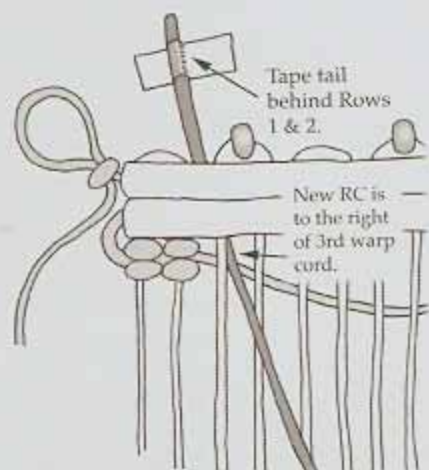

Fig. 5
6. Adding a new colored Runner Cord - Position the new Color C **Runner Cord** to the right of warp cord #3. Thread the tail upward and behind Rows 1 & 2 so that about an inch of the new cord protrudes above Row 1. Tape the tail in place with masking tape. The longer part of the cord should be in the correct position to make a **VDHH** onto the third vertical warp cord (see Figure 5). Then make another **VDHH** around the fourth warp cord. Bring the **RC** to the right behind all the remaining vertical cords and drape over the pin.